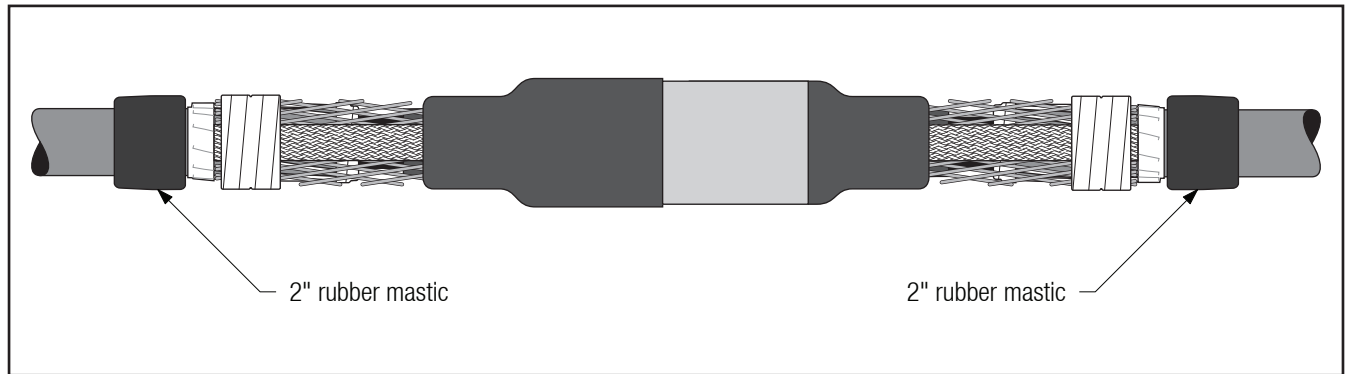
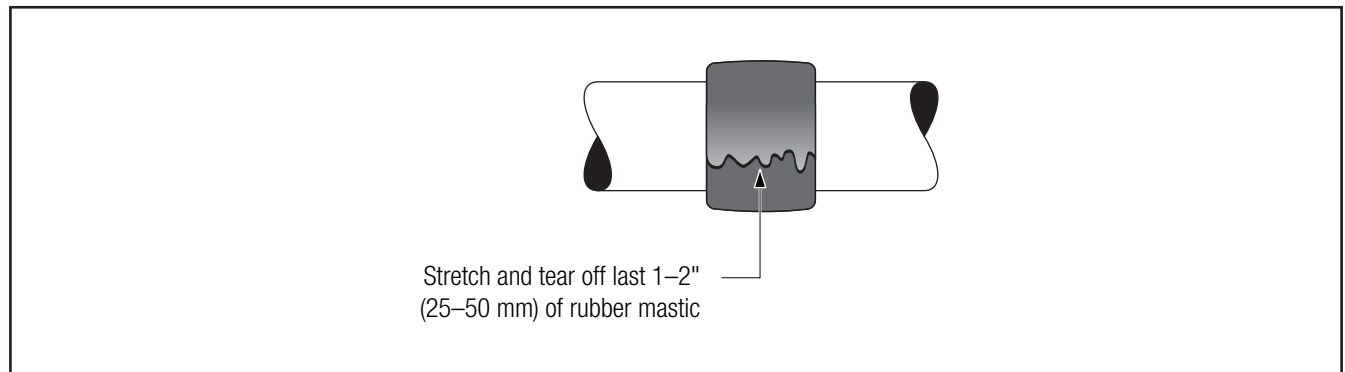

Figure 26
Figure 27
- 7.1 Wrap a roll of slightly stretched Scotch® Rubber Mastic Tape 2228, 2" x 36" around cable jacket at edge of cut neutrals (tacky side toward cable) (*Figure 26*). Stretch and tear off last 1–2" (25–50 mm) of mastic (*Figure 27*). If grounding was applied, apply tape over mastic strips.